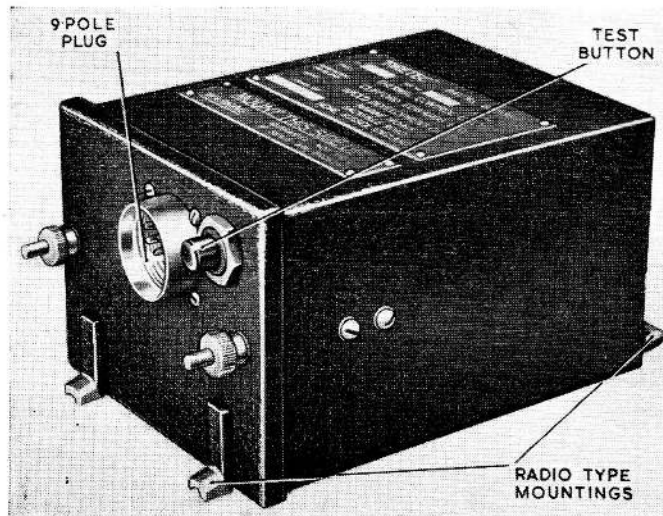
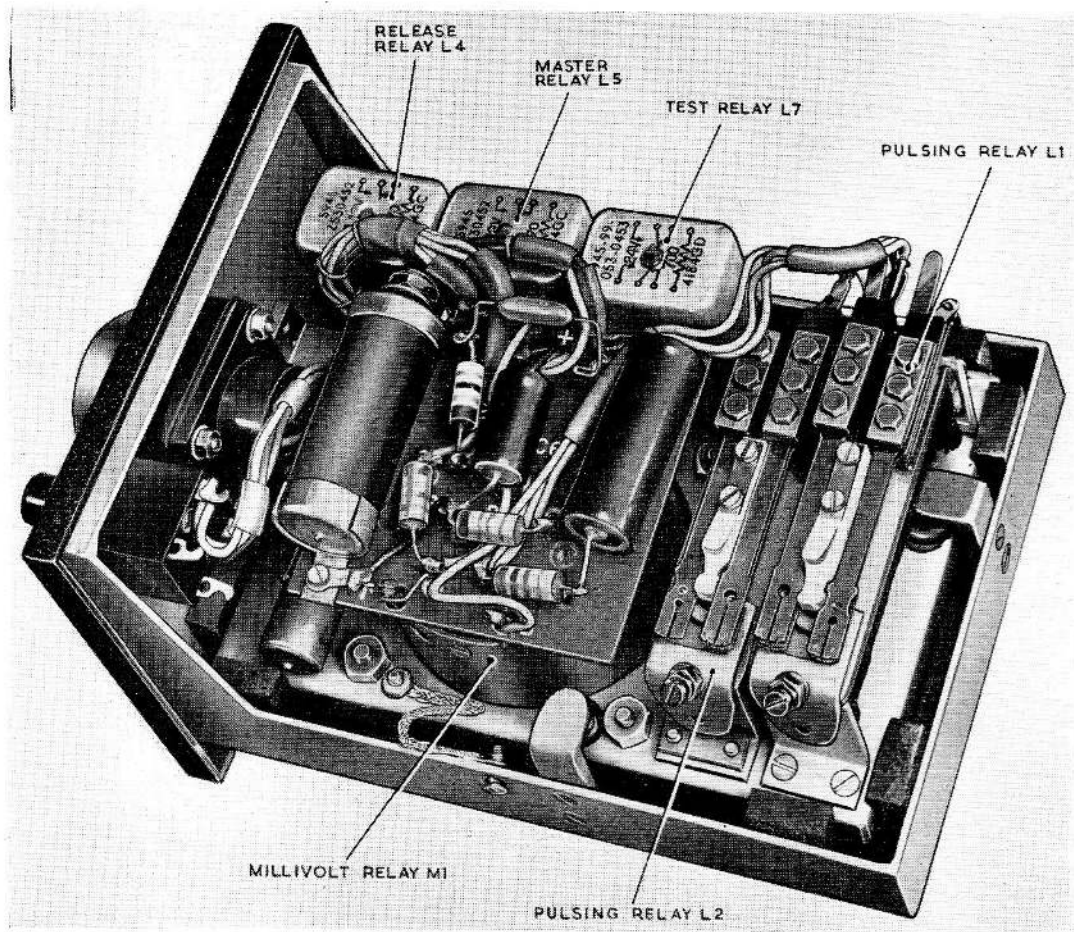
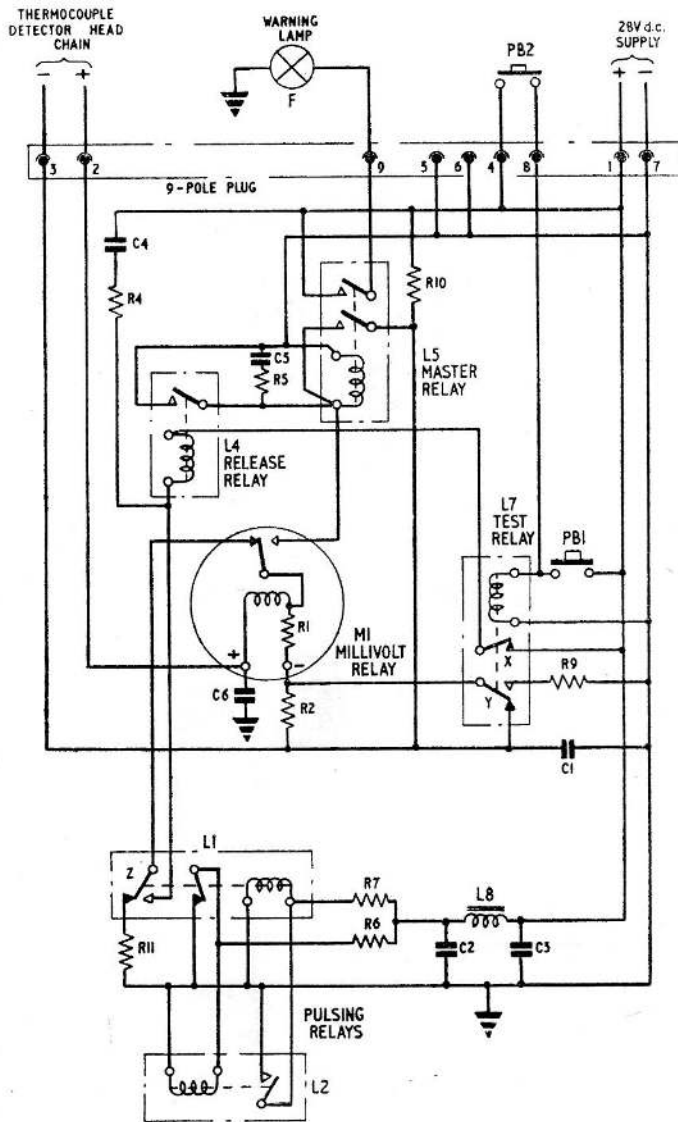

Fig. 1. Control unit, Type TP4501
Fig. 2. Control unit with cover removed
Fig. 4. Circuit diagram of control unit and external connections
2. The control unit (fig. 1) contains one pulse circuit and one fire warning circuit, the two pulse relays are Post Office Type 600 relays in units Type TP4501 and Post Office Type 2400 in units Type TP5901. The components of the unit are shown in fig. 2 and fig. 4 is a theoretical circuit diagram. A full description and details of operation are given in A.P.4343, Vol. 1, Sect. 22.